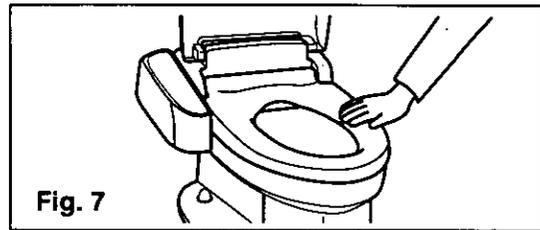

Fig. 7
7. If you have sensitive skin, set the temperature of the heated seat at "LOW" for protection against low temperature burn. (Fig. 7) (DL-S20A only)